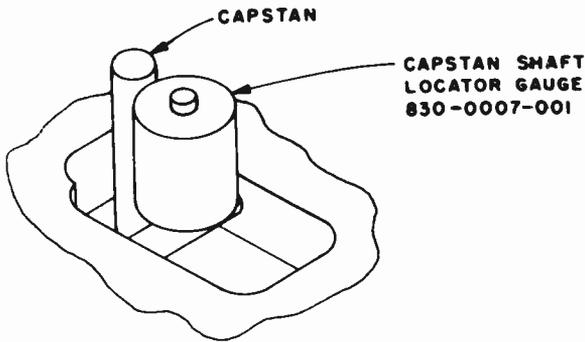

FIGURE 5-7
6. Place the steel Capstan Shaft Locator Gauge on the pressure roller shaft, press it tight against the capstan shaft (see Figure 5-7), and tighten the screws in the cross-shaft clamp. If the Capstan Locator Gauge is not available, place a rubber pressure roller on the shaft, press it against the capstan until the rubber is depressed approximately 1/32 of an inch where it makes contact with the capstan shaft, and tighten the screws in the cross-shaft clamp. Pressure is applied by pushing plunger into solenoid, this will keep this linkage taut.